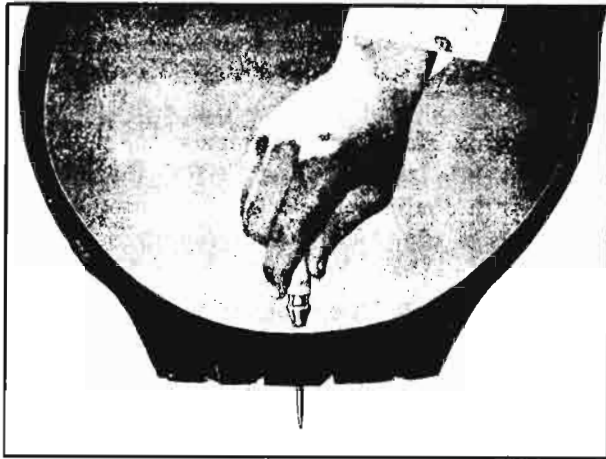

Fig. 3-49—Installing Needle in Tire Hole
- a. Clean awl needle and dip in Self-Vulcanizing Fluid. From inside of tire, force needle through tire until point extends beyond tread (fig. 3-49).